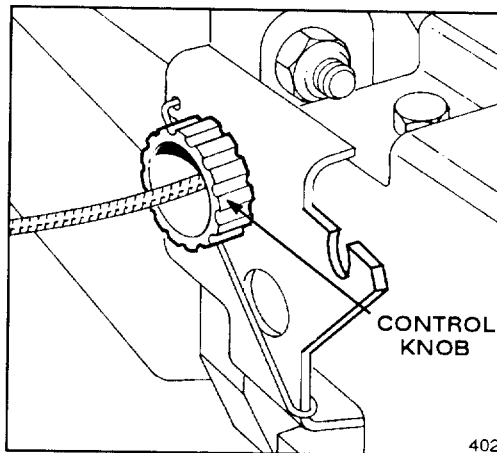

Figure 26
2. **ADJUSTMENT** (Fig. 26)—Rotate control knob clockwise 1/2 turn if mower does not self-propel. If mower creeps forward, rotate knob 1/2 turn counterclockwise to loosen belt.